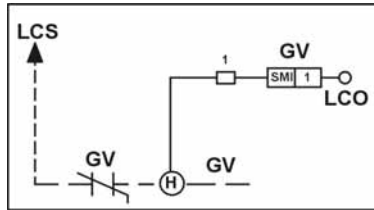

Figure 1-18
**Governor wiring:** Two wires are required from the electrical safety switch on the governor to the controller. [See Figure 1-18.]